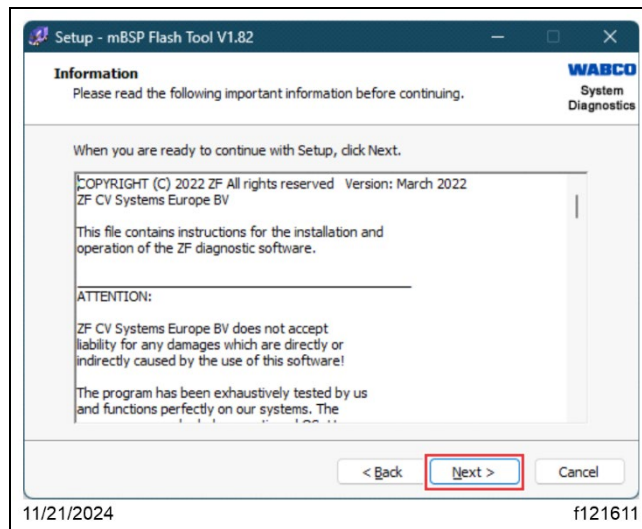

Fig. 36, Reading the Important Information
7.7. On the 'Information' screen, read the important information, then select 'Next.' See Fig. 36.